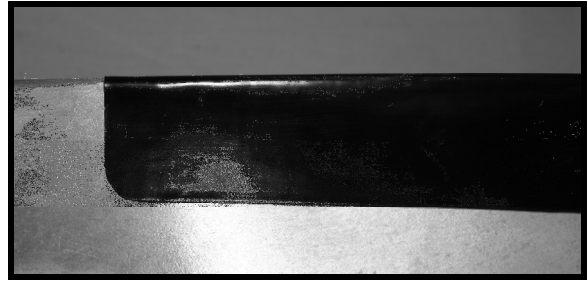

FIGURE 6.3
- 6.3 After trimming the shoe to the specified length, round both corners of the trimmed end to a ½ inch radius. (See Figure 6.3)